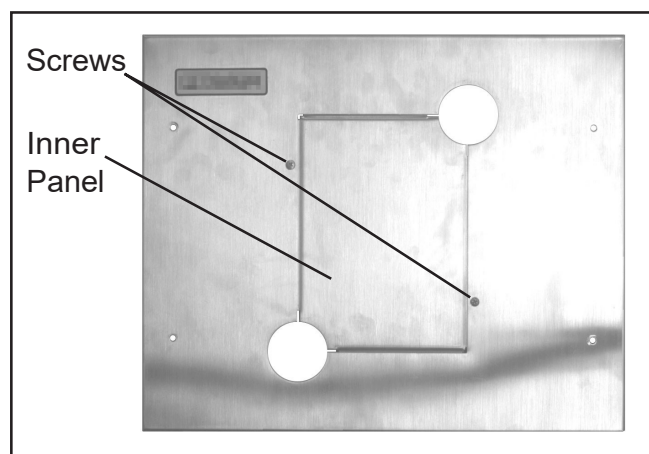

Figure 16
1. Remove cover plate assembly from shipping carton. Remove two screws holding inner panel in center of cover plate (Figure 16).